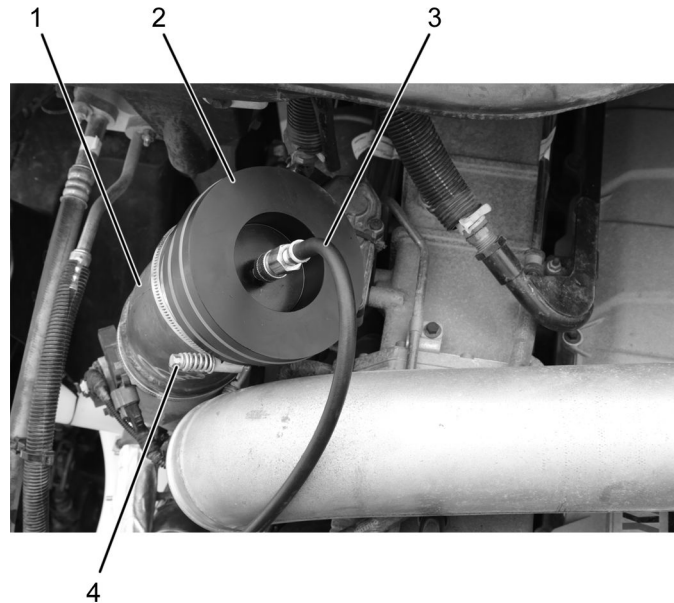

Figure 2. Navistar® Fixed Graduated Intake Adapter.
1. Install Navistar® fixed graduated intake adapter (Figure 2, Item 2) into air intake piping (Figure 2, Item 1) with clamp (Figure 2, Item 4) removed from air cleaner.
2. Connect Navistar® Leak Locator line (Figure 2, Item 3) to Navistar® fixed graduated intake adapter (Figure 2, Item 2).
1. Disconnect Navistar® Leak Locator line (Figure 2, Item 3) from Navistar® fixed graduated intake adapter (Figure 2, Item 2).
2. Remove clamp (Figure 2, Item 4) and Navistar® fixed graduated intake adapter (Figure 2, Item 2) from air intake piping (Figure 2, Item 1).